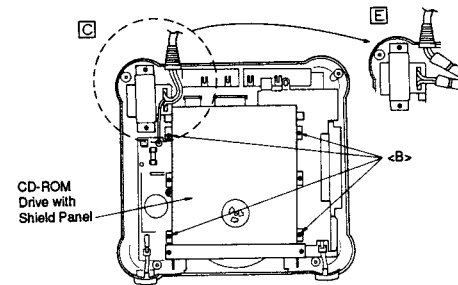

Figure 2
- (1) Remove four screws  (2.6 × 8 mm) as shown in Figure 2.